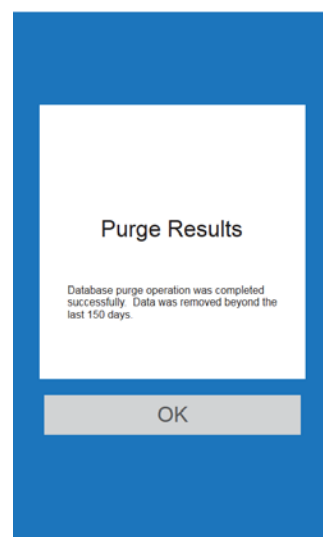

Figure 5-29: Purge completion screen
- Pressing “OK” will purge the data and the screen displayed in Figure 5-29 will appear indicating to the user that the purge took place successfully.